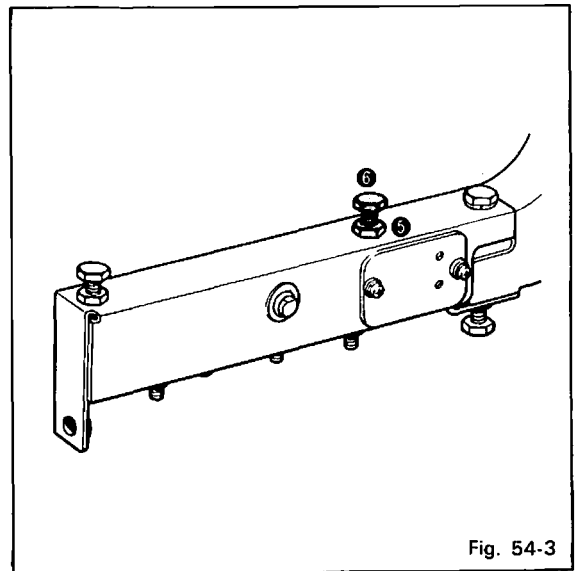

Fig. 54-3
Fasten bolt ⑥, the smaller the play; and loosen it, the larger. (Fig. 54-3)